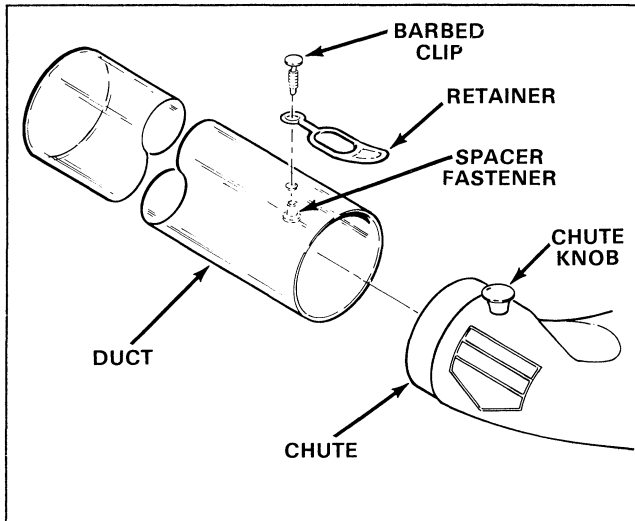

Figure 3
1. Secure retainer to duct with barbed clip and spacer fastener (Fig.3).
2. Slide duct onto chute assembly, aligning duct retainer with chute knob. Hook retainer onto knob, securing assemblies (Fig.3).